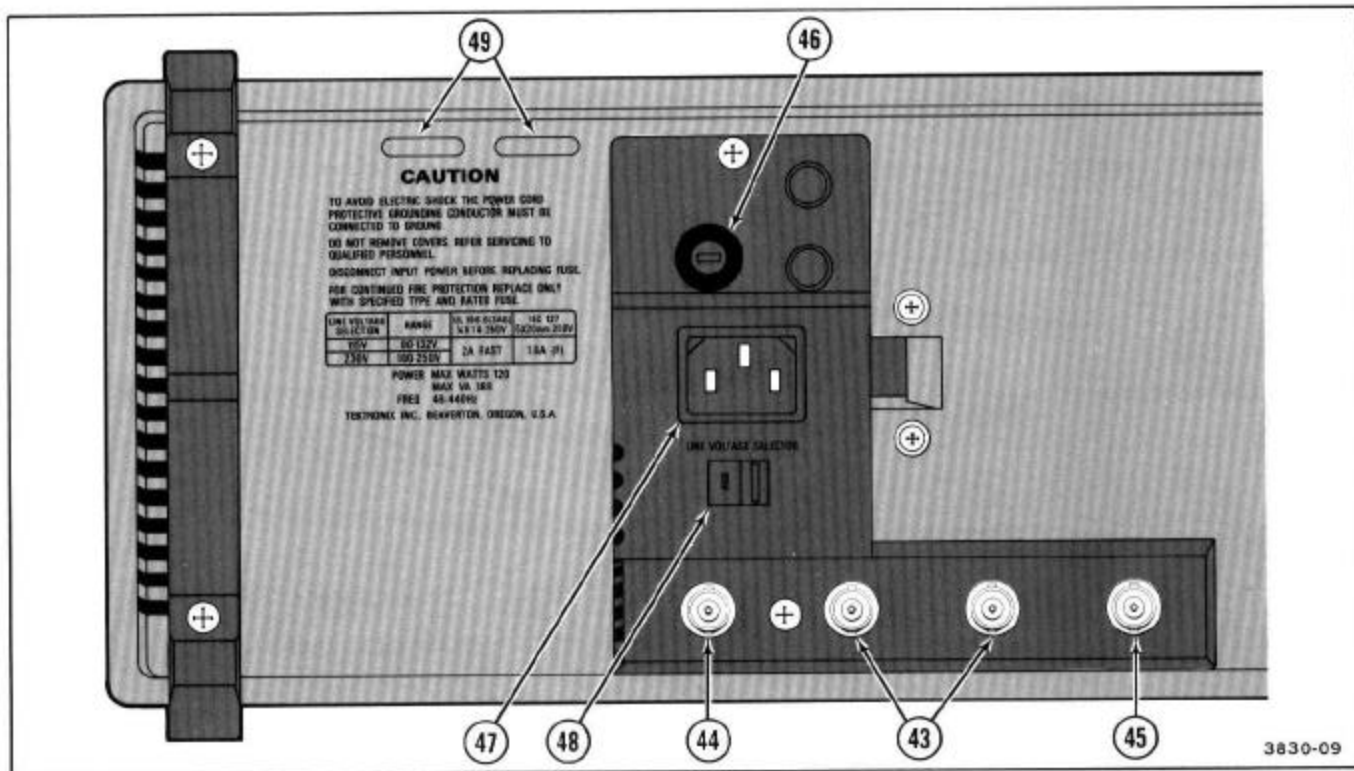

Figure 2-7. Rear-panel controls and connectors.
Refer to Figure 2-7 for location of items 43 through 49.